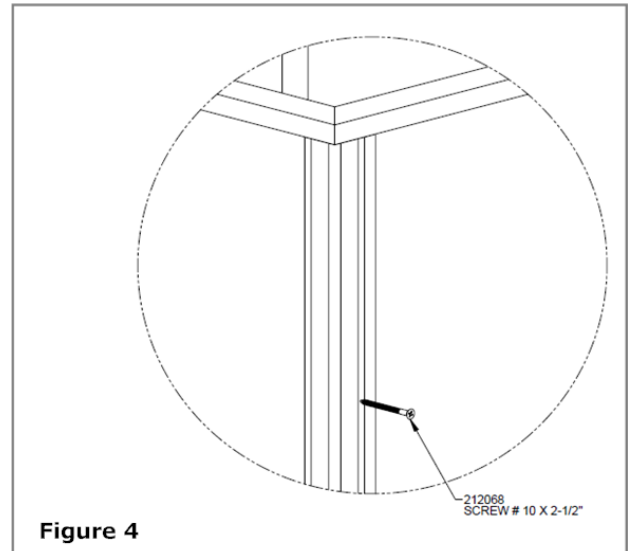
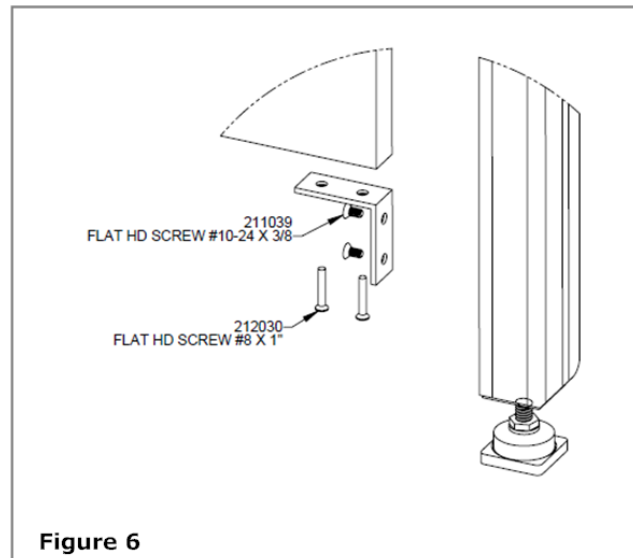

Figure 4
Figure 6
Review Figures 4 – 6 to identify the parts needed for each post. Complete one at a time and set aside.
- Short filler strips are included in your shipment. These short pieces are for below the angle bracket that supports the panel. **See Figure 6.** Slide the small filler strip in from the top first, and then attach the angle bracket to the post with the fasteners included. Attach the correct panel to the post using the fasteners shown in **Figure 6**, and the fasteners shown in **Figure 4**. Now that your panel is attached, identify if any other parts are needed to attach to the post.
- Once all the parts are attached to the post, fill in the remaining, exposed, sides of the posts with the long filler strips. This is done by sliding them in from the top of the post. The leveler at the bottom will stop the filler strip at the bottom of the post. This is important to have this done prior to installing the posts as it will be difficult to add these strips in after the fact. **See Figure 4.**